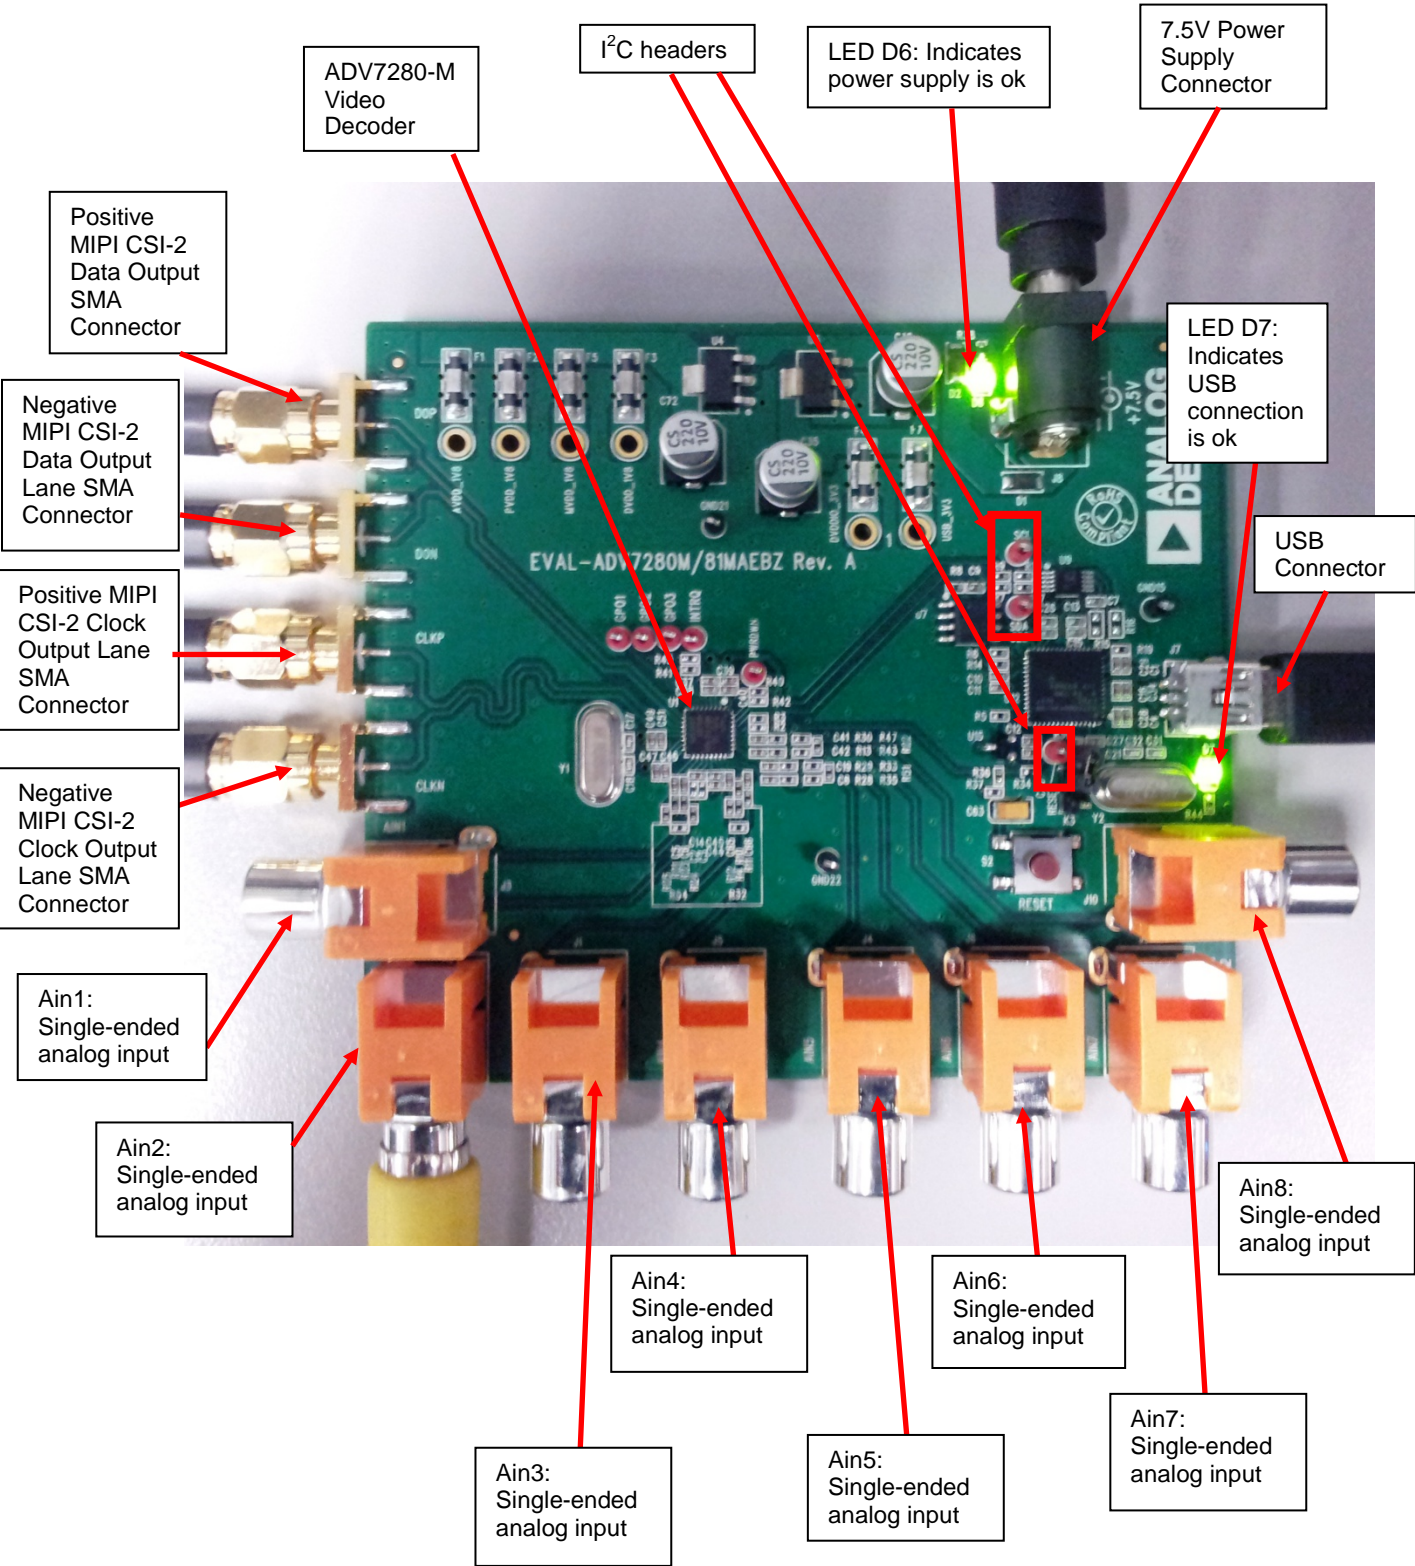

Figure 1. ADV7280-M Evaluation Board
- Connect the 7.5 V supply cable to Jumper J8 on the ADV7280-M evaluation board. The LED D6 turns on when this is done correctly (refer to Figure 1).
- Connect the other end of the USB cable to Jumper J7 of the ADV7280-M evaluation board. The LED D7 turns on when this is done correctly (refer to Figure 1).
- The USB connection allows a computer to communicate with the ADV7280-M. However, the I2C lines to the ADV7280-M can also be accessed via test points on the evaluation board. Refer to Figure 1.